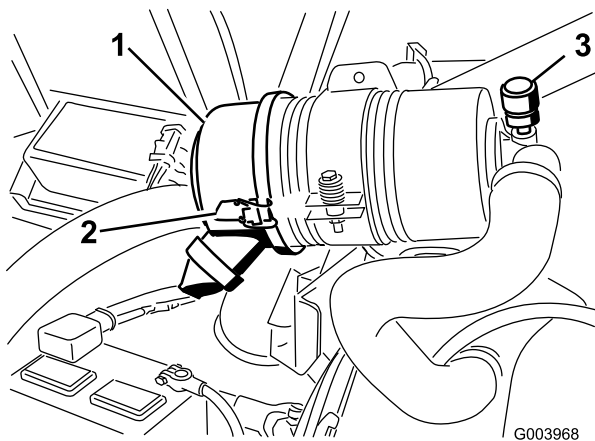

Figure 60
Service the air cleaner filter only when the service indicator (Figure 60) requires it. Changing the air filter before it is necessary only increases the chance of dirt entering the engine when the filter is removed.
1. Release the latches securing the air cleaner cover to the air cleaner body (Figure 60).